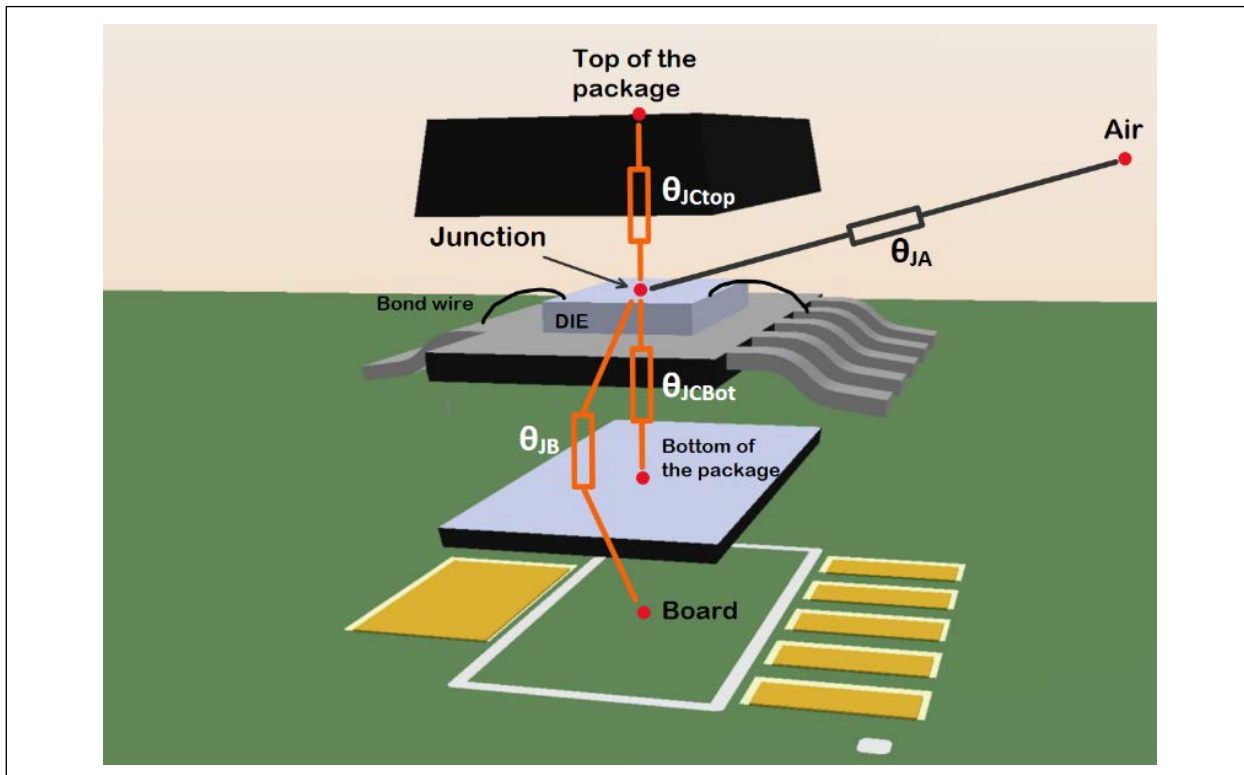

FIGURE 2: Section of the SOT223-5 Package Showing the Thermal Resistances.
In order to simplify the example of thermal resistance and its representation, an adapted version of thermal resistances can be used, as shown in the detailed view of the package depicted in Figure 2.
Junction-to-Ambient Thermal Resistance (θ_{JA}) (Figure 2) is a key thermal metric that measures the ability of an integrated circuit (IC) package to dissipate heat from the chip to the surrounding environment. It is particularly important under conditions of natural convection. This parameter is defined as the temperature difference between the junction (the hottest part of the chip) and the ambient environment, divided by the power dissipation of the device (PD).